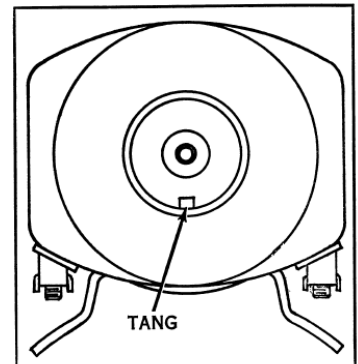

Figure 1
If the solenoid core has a tang as shown in Figure 1, remove the tang from the core and install the new plunger using the following procedure. If the solenoid core does not have a tang, install the new plunger using the following procedure, except omit steps 4 through 7.
4. Use a chisel and hammer to remove the tang from the solenoid core (Fig. 1).